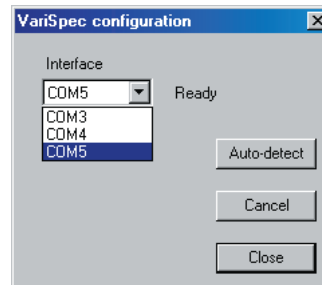

Figure 10. VariSpec Configuration Panel
2. You may initially receive an error message saying that software cannot connect to a COM port (Error Code 104). If this occurs, click **OK**. Then click the **Configure** button to open the **VariSpec Configuration** window (Figure 10).